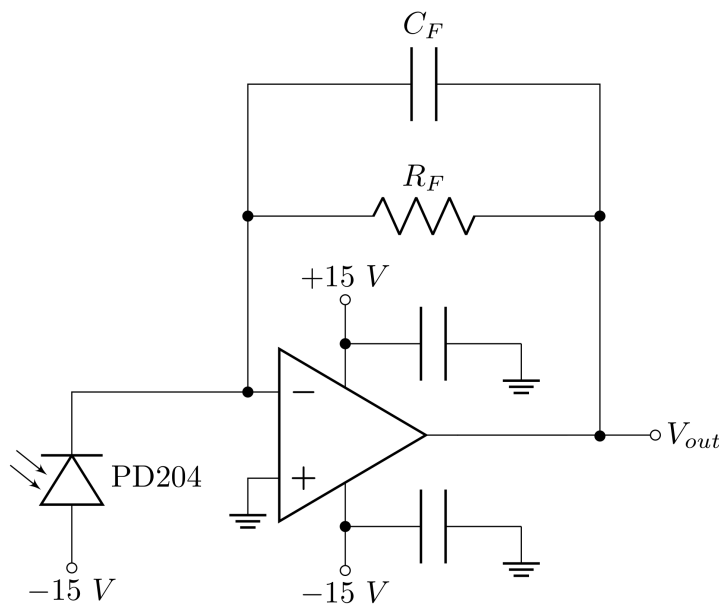
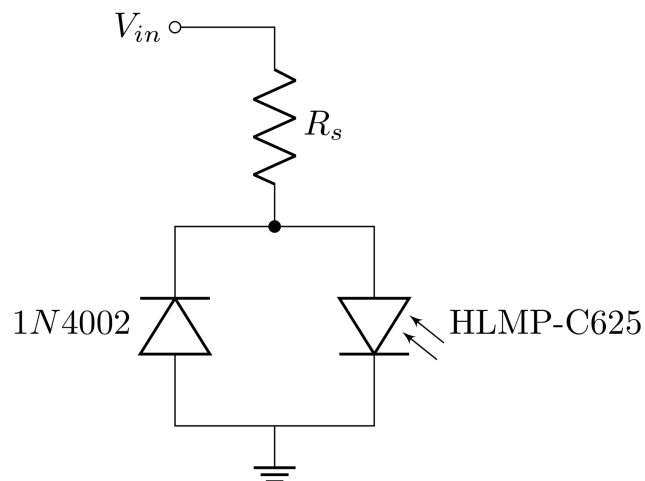

Figure 4: Photodetector circuit
Figure 5: Optical communication link circuit
In an ordinary inverting amplifier, the input voltage is applied to a resistor, and the amplifier generates an output voltage in response to the current that flows through the input resistor to the virtual ground at the negative op-amp input. A current-to-voltage amplifier (Figure 4) is an inverting amplifier with the input current I_{in} supplied by the photodiode and applied to the inverting op-amp input. Since no current flows into the op-amp input, the output voltage must be $V_{out} = -I_{in}R_F$. The ideal (Golden Rules result) low-frequency gain of a current-to-voltage amplifier is
The basic optical communication link is composed of two circuits (Figure 4 and Figure 5). The circuit in Figure 5 uses an AC voltage source to produce a light signal from the LED. The circuit in Figure 4 is the photometer, composed of a photodiode connected to a transimpedance amplifier to convert the light into a measurable voltage.
1. For the current-to-voltage amplifier in Figure 4, choose a value for the feedback resistor R_F so that an incident white-light ($\lambda = 555 \text{ nm}$) optical power of $P = 71 \mu\text{W}$ produces an output of 10 V.
1. Reconfigure your voltage amplifier to the transimpedance amplifier circuit shown in Figure 4. Pay attention to the direction of the photodiode. You can use your DMM set to the "diode setting" to determine which side of the diode is the cathode.
1. Set up a light emitting diode type HLMP-C625 as the transmitter on a separate small circuit board according to the schematic in Figure 5. Be sure to protect the LED with a series resistance that prevents the forward current exceeding 20 mA. HINT: You calculated the required resistance in the prelab. Also, the LEDs have a nominal breakdown voltage of 5 V, which, if exceeded, can damage the LED. Therefore, to prevent this from happening, connect a regular diode in parallel with the LED but with opposite polarity. This will protect the LED from a large negative voltage.